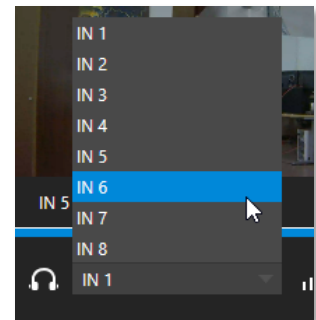

FIGURE 30
1. The audio source supplied to the *Headphone* jack can be selected using the menu next to the *headphone icon* (Figure 30).